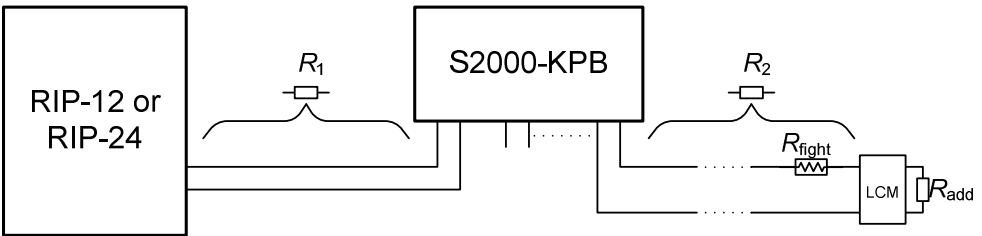

Figure 4
4.2 The power supply should be located at such distance from the module that the resistance R_1 of the wires between the power supply and the module (see Figure 4) meets the following requirement:
4.4 Connect the fire-fighting system as shown in Figure 4. The length of wires used to connect the fire-fighting system and the resistance of the additional resistor must have the values which provide the required current of activation of the electric activator.